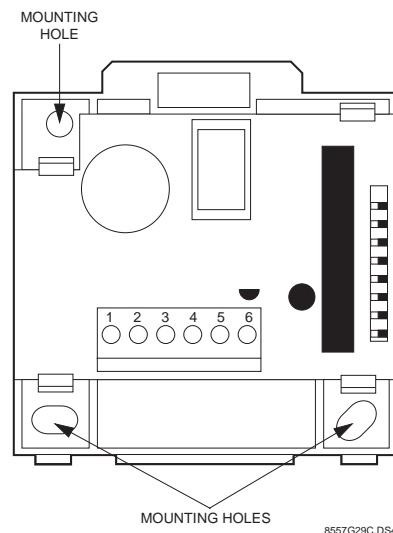

Figure 3. Mounting Hole Locations
2. Place the ESM on the wall at the desired location and mark the upper-left and lower mounting holes (see Figure 3).